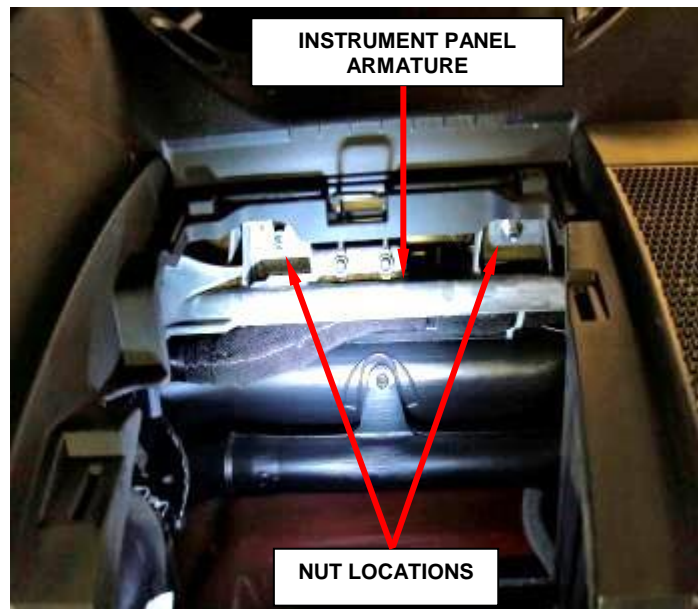

Figure 127 – PAB Lower Nuts
27. Reach up into the instrument panel glove box opening to access and remove and save the two nuts that secure the PAB lower studs to the instrument panel armature on each side of the glove box latch striker (Figure 127).